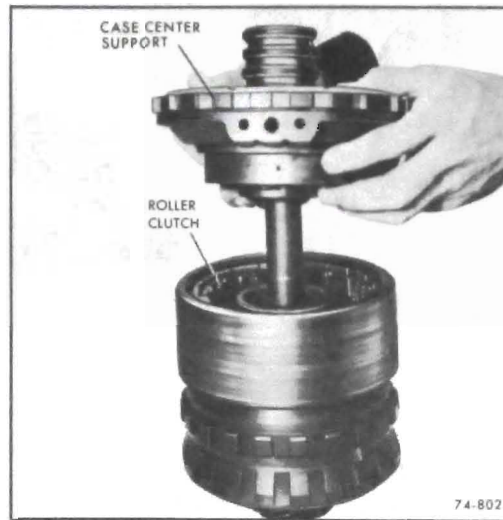

Figure 76-598
20. Install center support into roller clutch in reaction carrier. See Figure 76-598.